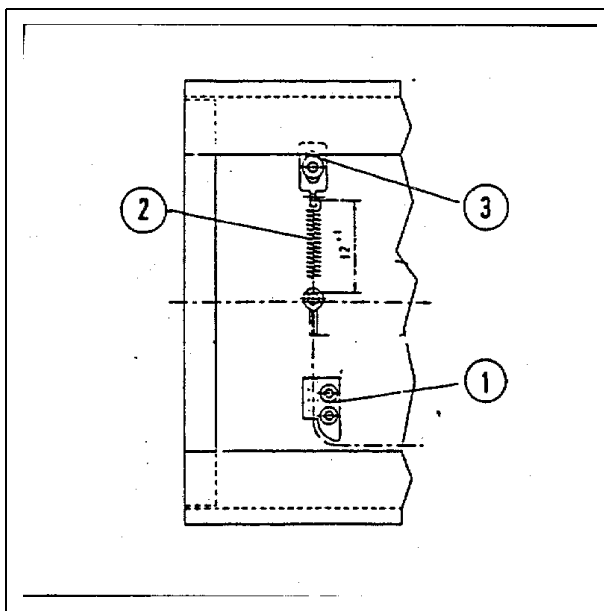

Fig. 6
- Hook the spring (Fig. 6/2) back on the holder (Fig. 6/3).
- Then fasten the rope guide (Fig. 6/1) again. In doing so, place the guide rope in the rope guide.
- Loosen the screw (Fig. 6/3), but do not screw it out.
- If necessary, readjust the spring stroke (Fig. 6/ 2).